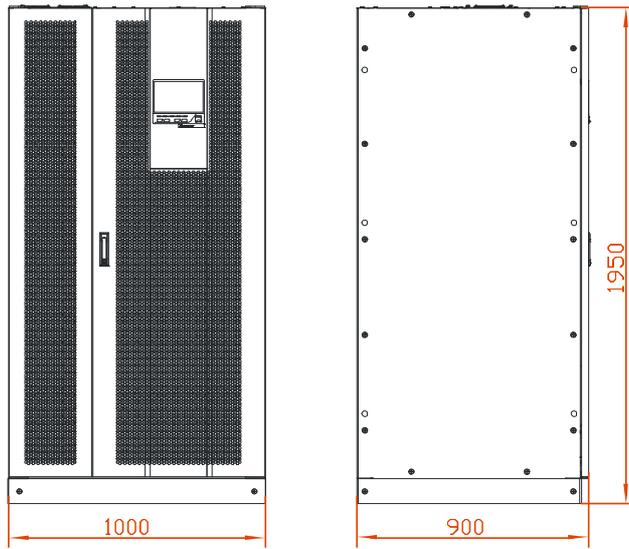
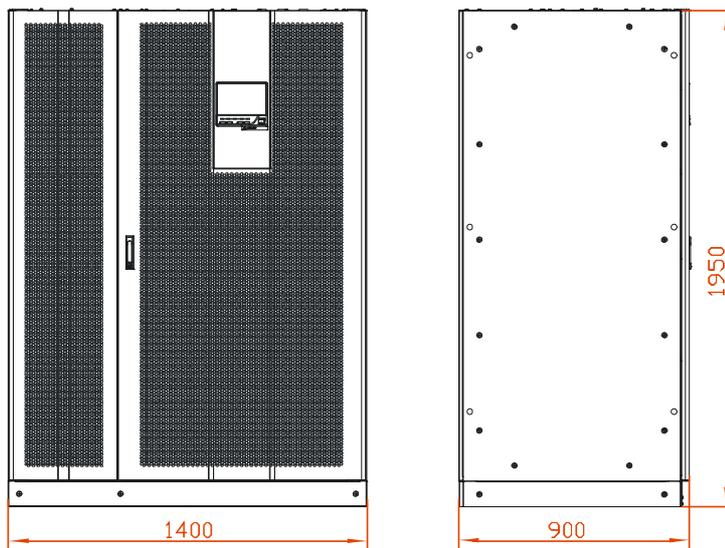
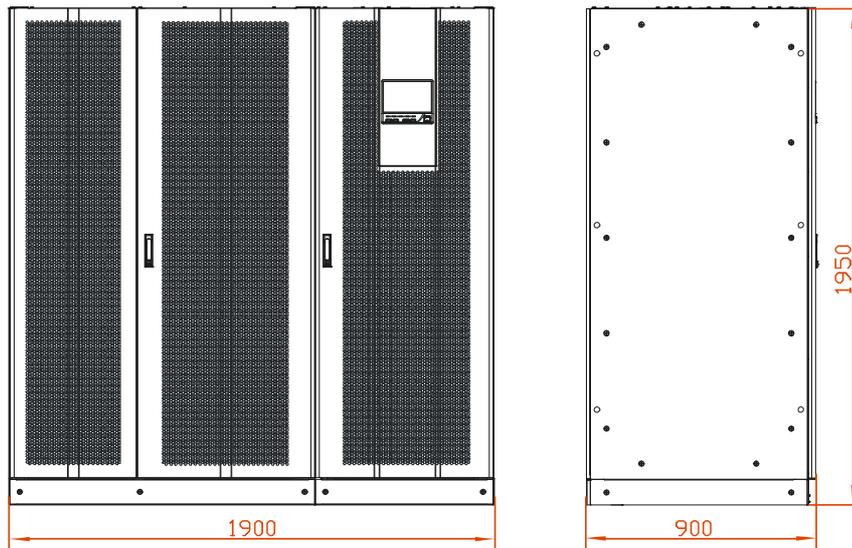
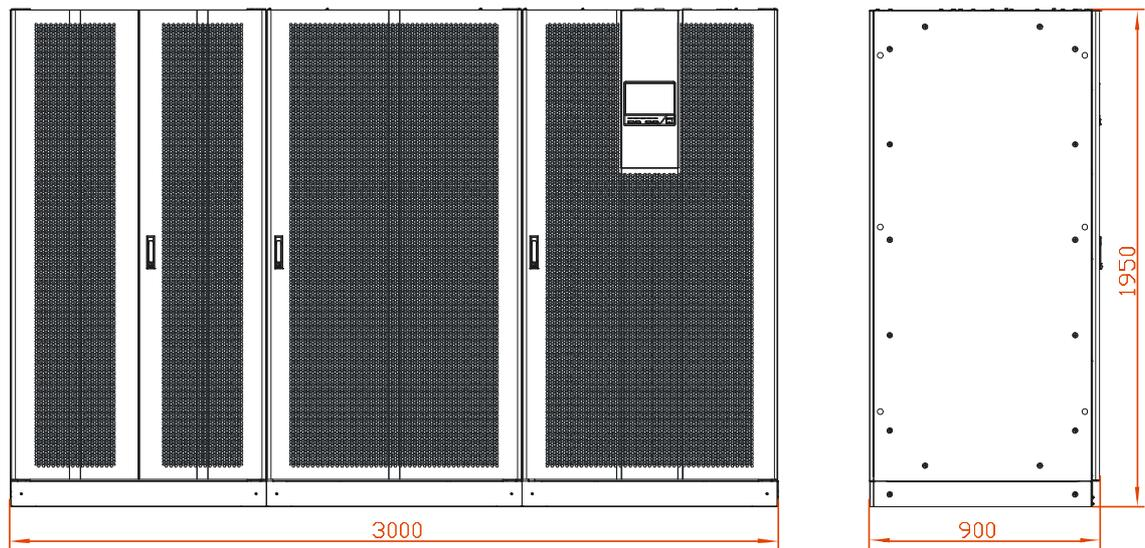

Figure3-7 Size of BM33300, BM33400 (unit: mm)
Figure3-8 Size of BM33500, BM33600 (unit: mm)
Figure3-9 Size of BM33800 (unit: mm)
Figure3-10 Size of BM331000, BM331200 (unit: mm)
Step 1 Determine and plan the installation position according to the UPS size (as shown in Figure3-7, Figure3-8, Figure3-9, Figure3-10) and installation clearance requirement (see 3.3.3 *Installation Clearance*).